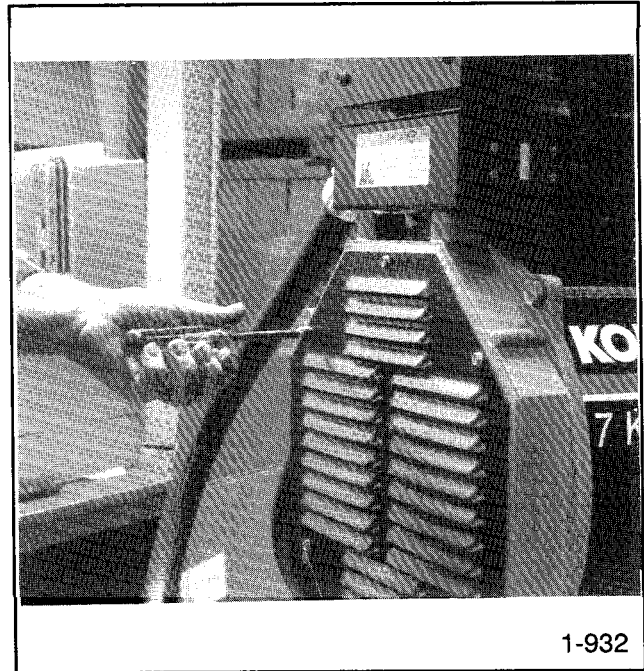

Figure 8-1. End Bracket Removal.
1. Remove the six screws securing the end bracket panel to the unit using a 5/16 in. nutdriver. Remove the panel to expose the end bracket assembly. See Figure 8-1.